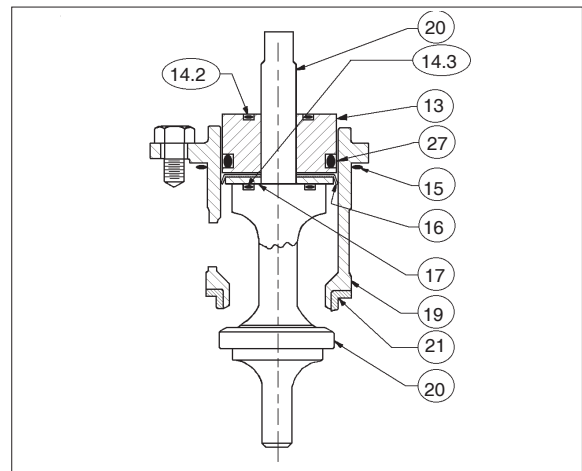

Figure 2: Assembled ITA, Composition Diaphragm Construction
1. Units with Composition Diaphragm(s) (See Figure 2):
- a. Pull the valve plug (20) downwards and out of the piston-guide bearing (13) and out of the cage's (19) bottom, while holding the cage (19).
- b. Remove the piston-guide bearing (13) from the upper end of the cage (19).
- c. Remove o-ring middle stem seal (14.2) from piston-guide bearing (13).
- d. Examine the components (27.1, 27.2, 27.3, 27.4, 27.5, 27.6) of the dynamic side seal (27) mechanism to determine if significant leakage was occurring. If the dynamic side seal (27) shows signs of significant leakage, determine if operating conditions are exceeding pressure, pressure drop, or temperature limits.